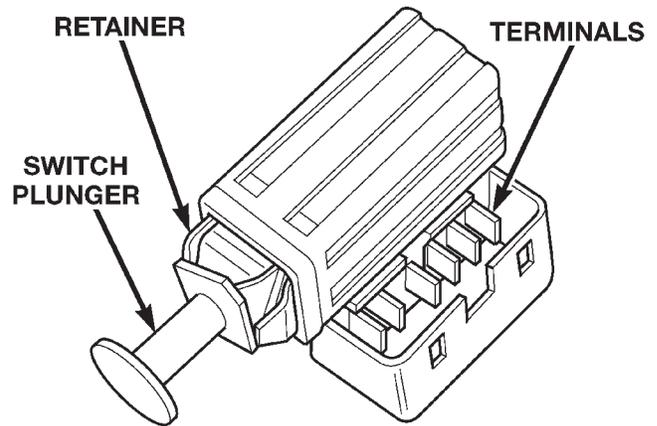

Fig. 19 Stop Lamp Switch
(1) Remove steering column cover and lower trim panel for switch access (if necessary).
(2) Press brake pedal downward to fully applied position.
(3) Rotate switch approximately 30° in counter-clockwise direction to unlock switch retainer. Then pull switch rearward and out of bracket.
(4) Disconnect switch wire harness and remove switch from vehicle (Fig. 19).